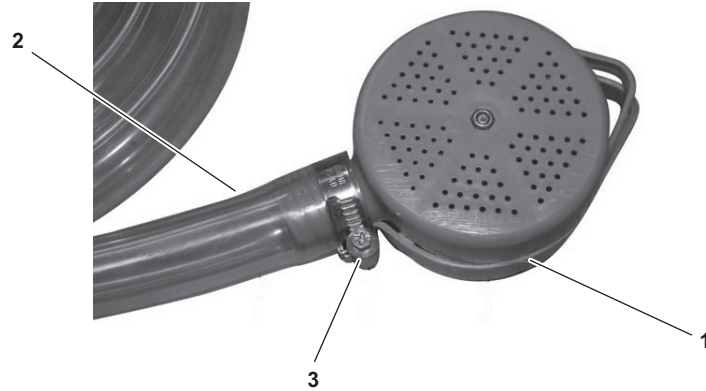

Figure 6-34. Air Inlet Hose and Hose Clamp
- (3) If it's necessary to remove the pre-filter (figure 6-34, item 1) at the other end of the air inlet hose (figure 6-34, item 2), loosen the hose clamp (figure 6-34, item 3) by turning the screwdriver CCW.
- (4) When sufficient slack is present in the hose clamp (figure 6-34, item 3), pull the pre-filter (figure 6-34, item 1) off of the air inlet hose (figure 6-34, item 2).
- (1) If the pre-filter (figure 6-34, item 1) is not already installed on the air inlet hose (figure 6-34, item 2), first place the hose clamp (figure 6-34, item 3) around one end of the air inlet hose. Do not tighten.
- (2) Push the open end of the pre-filter (figure 6-34, item 1) onto the air inlet hose (figure 6-34, item 2) at the same end as the hose clamp (figure 6-34, item 3). Ensure that the pre-filter is on the air inlet hose as far as it will go.
- (3) Secure the pre-filter (figure 6-34, item 1) on the air inlet hose (figure 6-34, item 2) by positioning the hose clamp (figure 6-34, item 3) at the base of the pre-filter and tighten the hose clamp by turning the bolt CW with a screwdriver. Tighten until snug.